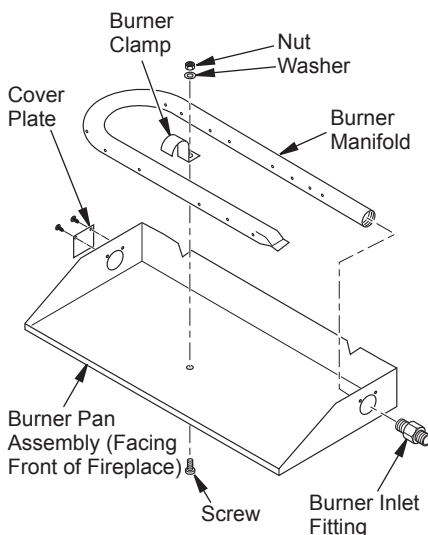

Figure 3 - Installing Burner
2. Using a screwdriver, remove cover plate on left side of burner pan (see Figure 3).
3. Unscrew burner inlet fitting from burner manifold (see Figure 3).